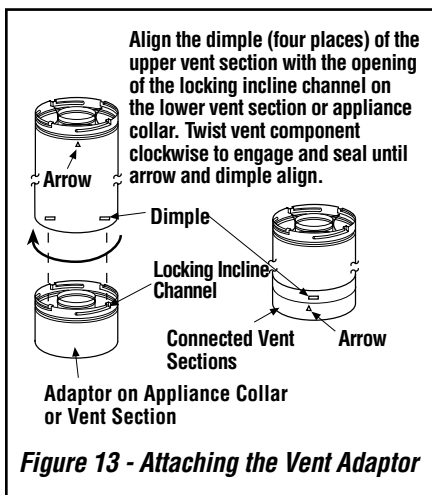

Figure 13 - Attaching the Vent Adaptor
B. Attach adaptor (with probe) to appliance collar - Secure Vent® SV4.5 direct-vent system components are unitized concentric pipe components featuring positive twist lock connections (see *Figure 13*).
To attach a vent component to the adaptor on appliance collar, align the dimpled end over the adaptor collar, adjusting the radial alignment until the four locking dimples are aligned with the inlet of the four inclined channels on the collar (refer to *Figure 13*). Push the vent component against the collar until it fully engages, then twist the component clockwise, running the dimples down and along the incline channels until they seat at the end of the channels.
Push the vent component against the previous section until it fully engages, then twist the component clockwise running the dimples down and along the incline channels until they seat at the end of the channels. **This seating position is indicated by the alignment of the arrow and dimple as shown in *Figure 13*.**
F. Change vent direction to horizontal/inclined run - At transition from or to a horizontal/inclined run, install the SV4.5E45 and SV4.5E90 elbows in the same manner as the straight vent sections. The elbows feature a twist section to allow them to be routed about the center axis of their initial collar section to align with the required direction of the next vent run element. **Twist elbow sections in a clockwise direction only so as to avoid the possibility of unlocking any of the previously connected vent sections (see *Figures 13 and 15*).**
Secure Vent® SV4.5 direct-vent system components are unitized concentric pipe components featuring positive twist lock connection, (refer to **Figure 13 on Page 16**). All of the appliances covered in this document are fitted with collars having locking inclined channels. The dimpled end of the vent components fit over the appliance collar to create the positive twist lock connection.
D. Attach vent components to appliance - To attach a vent component to the appliance collar, align the dimpled end over the collar, adjusting the radial alignment until the four locking dimples are aligned with the inlets of the four incline channels on the collar (refer to **Figure 13 on Page 16**).
Other vent sections may be added to the previously installed section in accordance with the requirements of the vent tables. To add another vent component to a length of vent run, align the dimpled end of the component over the inclined channel end of the previously installed section, adjusting the radial alignment until the four locking dimples are aligned with the inlets of the four incline channels of the previous section. Push the vent component against the previous section until it fully engages, then twist the component clockwise running the dimples down and along the incline channels until they seat at the end of the channels. **This seating position is indicated by the alignment of the arrow and dimple as shown in Figure 13 on Page 16.**
H. Change vent direction - At transitions from or to a horizontal/inclined run, install the SV4.5E45 and SV4.5E90 elbows in the same manner as the straight vent sections. The elbows feature a twist section to allow them to be routed about the center axis of their initial collar section to align with the required direction of the next vent run element. **Twist elbow sections in a clockwise direction only so as to avoid the possibility of unlocking any of the previously connected vent sections (see Figure 13 on Page 16).**